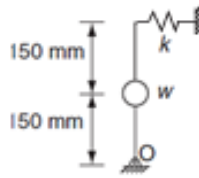

Figure 13 Question 26.
- 26.** A uniform stiff rod of length 30 mm and having a weight of 300 N is pivoted at one end and connected to a spring at the other end (Figure 13). For keeping the rod vertical in a stable position, the minimum value of spring constant k needed is: